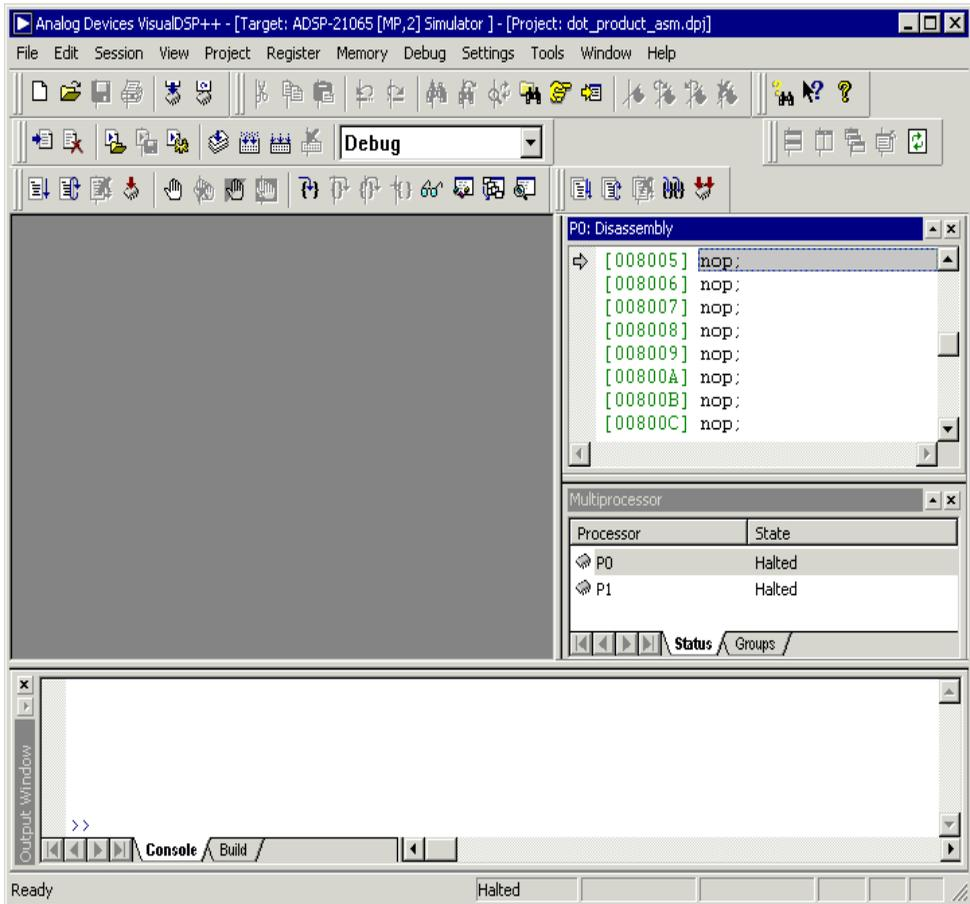
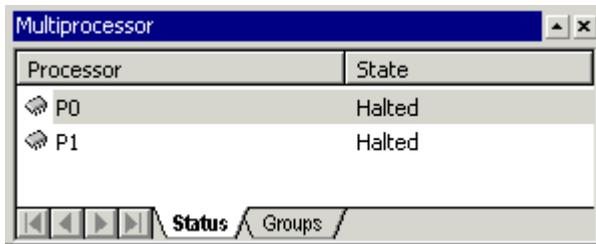
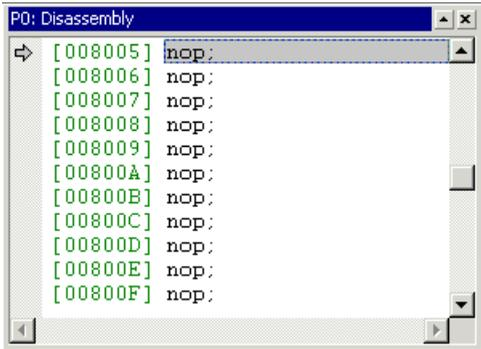

Figure 3-37. VisualDSP++ Windows: After Creating a Multiprocessor Session
Figure 3-38. Multiprocessor Window: Status Tab Page
Figure 3-39. Disassembly Window: Disassembled Instructions in Processor P0
Figure 3-37 shows the windows in the new multiprocessor session.
In Figure 3-37, the Multiprocessor window (Figure 3-38) appears under the Disassembly window in the lower-right portion of the VisualDSP++ main window.
For example, the title bar of the Disassembly window shown in Figure 3-37 and in Figure 3-39 indicates that information was collected from processor **P0**.
You can easily view data from any processor in the current session. Displaying data from a different processor in the same window is called *changing focus*. On the Multiprocessor window's **Status** tab page (Figure 3-38), the first processor listed, **P0**, is highlighted and currently *has focus* by default.
1. On the Multiprocessor window's **Status** tab page (Figure 3-38), click **P1**.
5. Select different processors from the Multiprocessor window's **Status** tab page (Figure 3-38) and notice that both Disassembly windows change focus to the currently selected processor. Also note that the `r0=0x1234;` instruction is present only when the Disassembly windows are focused on P1.
- 8. On the Multiprocessor window’s **Status** tab page (Figure 3-38), select processor **P1**. Notice that the bottom Disassembly window changes focus to processor P1 and that the top Disassembly window stays focused on processor P0.
1. On the Multiprocessor window's **Status** tab page (Figure 3-38), select **P0** to set focus to processor P0.